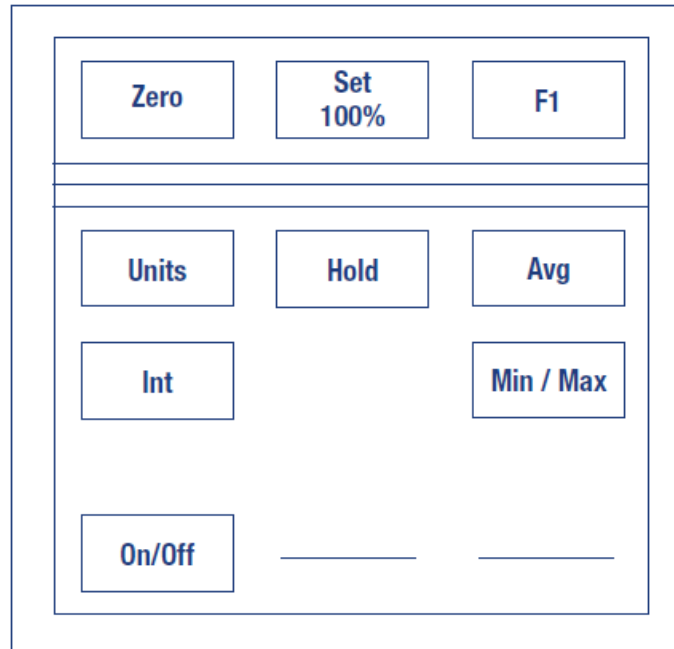

Figure 7 Keypad Configuration of the PMA2200
- The keys of the PMA2200 (Figure 7) have a tactile feel and an audible signal is generated when the key is pressed.